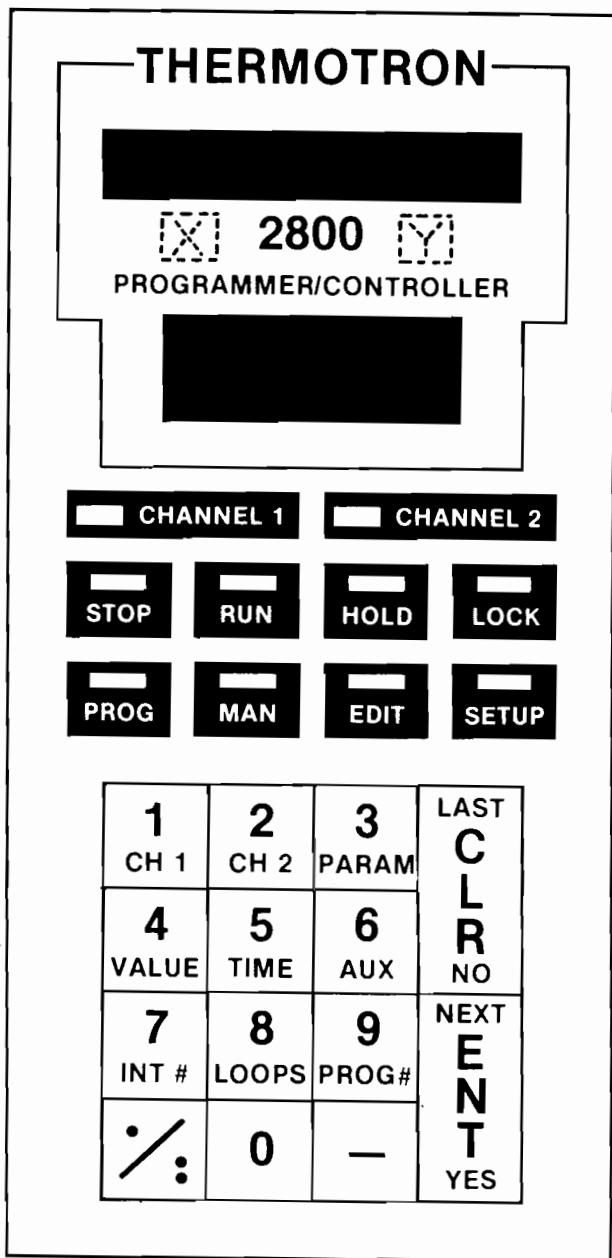

FIGURE 9
1. Press the **LOCK** key. The display shows **ENTER KEY**. See Figure 9.
2. Press the **X** key hidden just above the letters OGRA between the two displays. See Figure 9. The alpha display shows **-XXX-**.
3. Press the **Y** key hidden just above the letters TROL between the two displays. See Figure 9. The alpha display shows **-XXX-YYY-**.